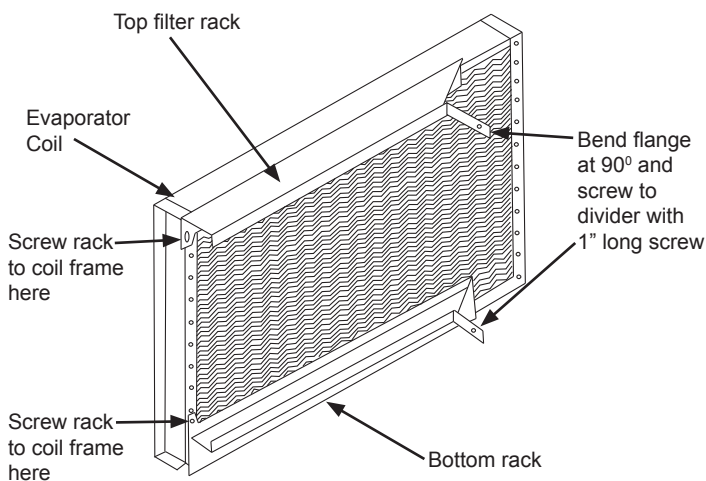

Fig. 1 - Filter Rack
4. Install the top filter rack in the HVAC unit next to the indoor coil. Bend flange by hand at 90 degrees - Fig.1. Screw left side of rack in to 4th hole down on coil frame. Use only 1/2" (12.7mm) long blunt end screws. Make sure the bracket is level and the right side of filter bracket is pushed back against the coil then screw bent flange to unit side panel using 1" long self-drilling screw provided. If using 2" (50.8mm) filter the filter spacer must be removed.
Install the bottom filter rack. Bend flange 90 degrees - Fig.1. Screw left side of rack to the coil frame. Use only 1/2" (12.7mm) long blunt end screws. Make sure the bracket is level and the right side of the filter bracket is pushed back against the coil then screw bent flange to unit side panel using 1" long self drilling screw.
14. Remove the filter access panel and install disposable filters in filter rack. Reinstall the filter access panel. Fig. 1. See Table 2 for filter sizes.